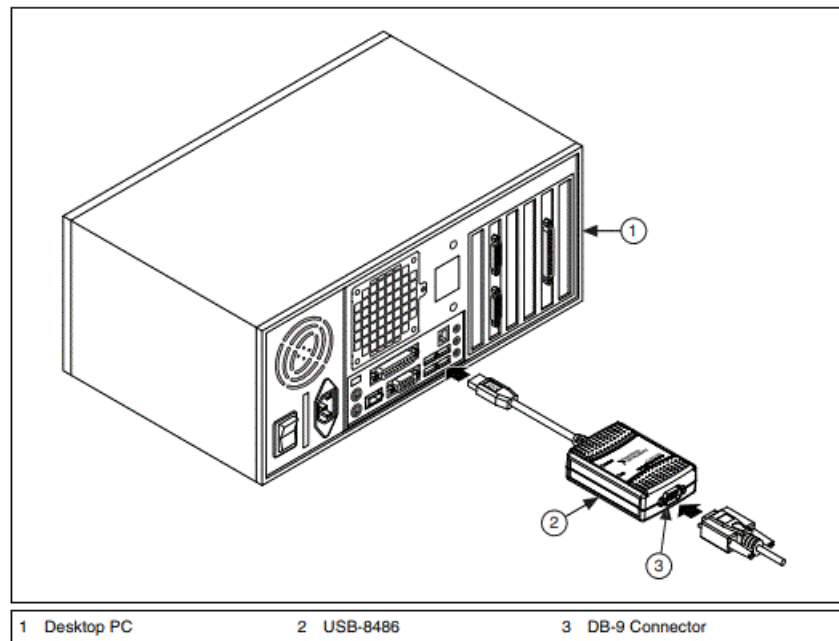
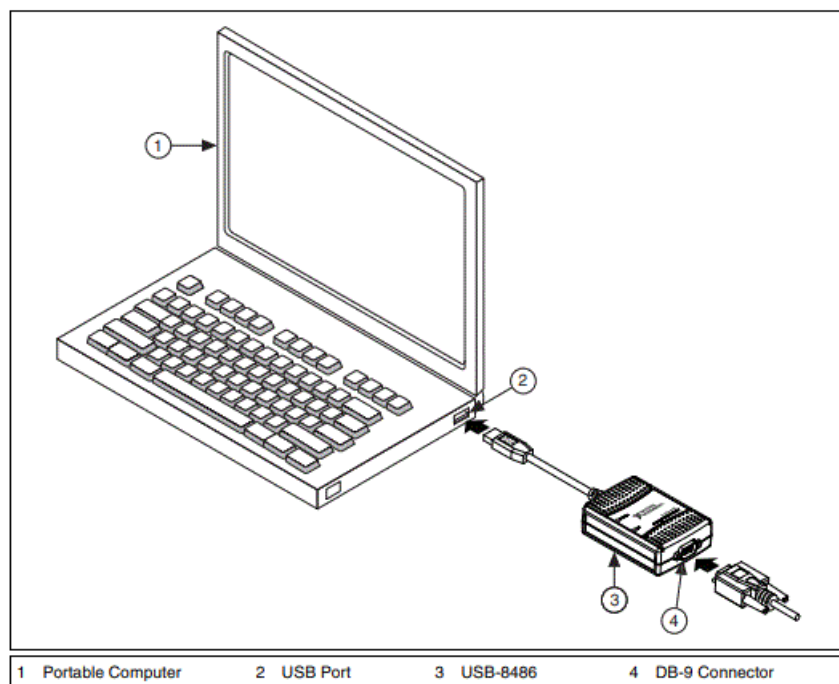

Figure 3. Connecting the USB-8486 to a Desktop PC
Figure 4. Inserting the USB-8486
2. Insert the USB-8486 into a free USB port, as shown in Figure 3 and Figure 4.